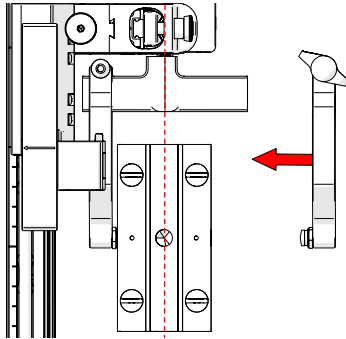

Fig. 39 - Remove outer arm
6. Align the middle of the wedge with the centre of the yoke (Fig. 39).